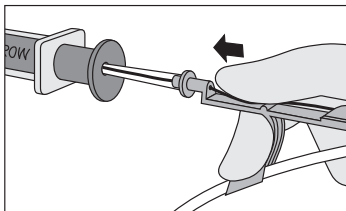

Fig. 8
- Advance spring-wire guide into the syringe approximately 10 cm until it passes through the syringe valves (refer to Fig. 8).